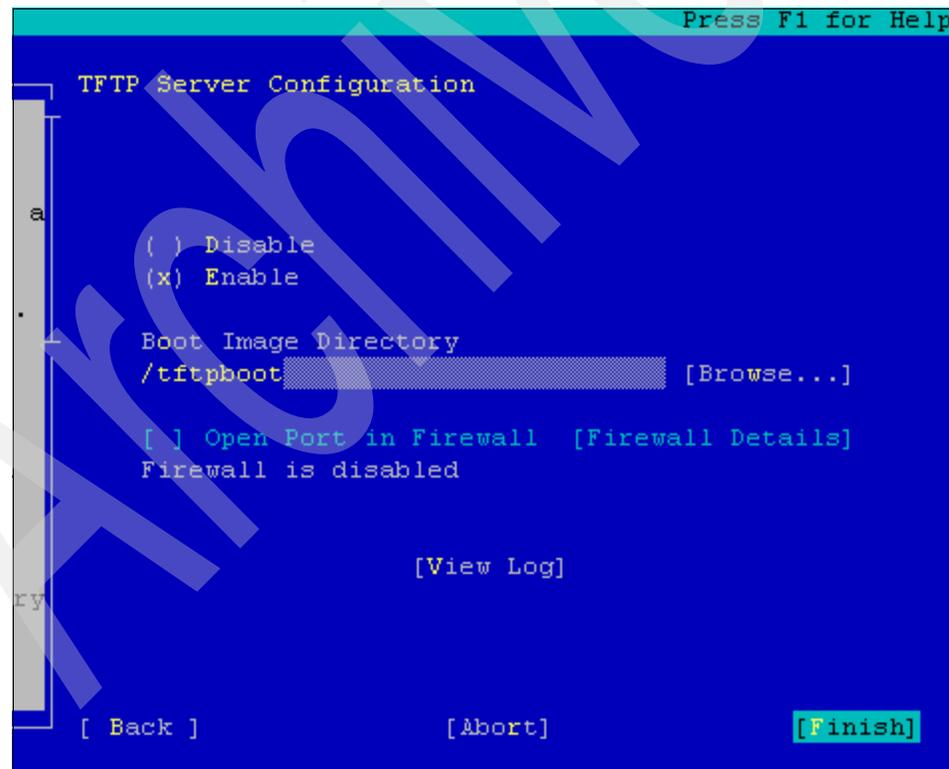

Figure D-1 Configure a TFTP server in SLES10 SP2
4. In the new window, select **Enable** and create `/tftpboot` in the Boot Image Directory section as shown in Figure D-1.